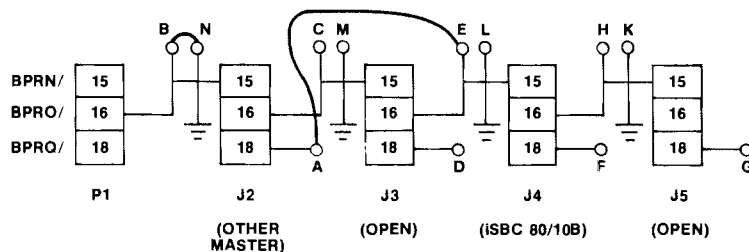

Figure 2-7. Replacement Method Priority Resolution
The second method of implementing the dual master priority configuration is shown in figure 2-7. In this configuration the other master is also placed into any cardcage slot which has pin 15 (BPRN/) grounded. A jumper must then be installed between pin 18 of the other master and pin 15 of the iSBC 80/10B board. A slot must also be skipped in this scheme. To illustrate, the second method is implemented in the following example:
- Add a jumper wire between wire wrap posts A and E on the backplane (figure 2-7).